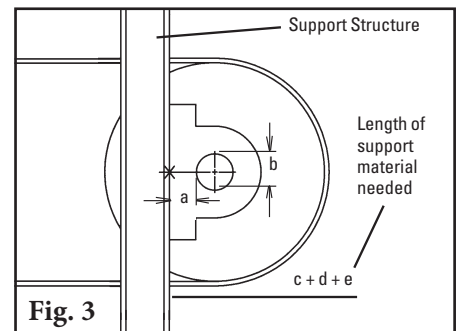

Fig. 3
7. **Cut chute opening.** Using the adjusted intersecting mark (“+”) established in Step 6, layout and cut the required opening 125 x 150 mm (5 x 6”) on the chute (Fig. 3). If an access hole is required, see Step 7.
- Measure from the back of the pulley shaft to the support structure (Fig. 3).
6. Set the Spring Tension. Loosen the J bolt jam nut and turn the tensioner adjusting nut until the coil is 150 mm (6") long. Measure the length of the compressed part of the spring (Fig. 3) Complete on both sides of the cleaner if required.
- b) With the pole rotated upward, so that all tips contact the head pulley, slide the adjusting arm onto the pole tight against the bearing mount, resting on the adjusting bolt, pointed away from the head pulley. Tighten both of the adjusting arm lock bolts and lock nuts (Fig. 3).
- 4. Tension the blades to the belt.** Rotate the blades until they contact the belt. While holding the spring bushing flat on the torque arm, rotate the torque arm until the pivot arm is against the end of the slot nearest the pole. Tighten the locking bolts and jam nuts on the torque arm (Fig. 3).